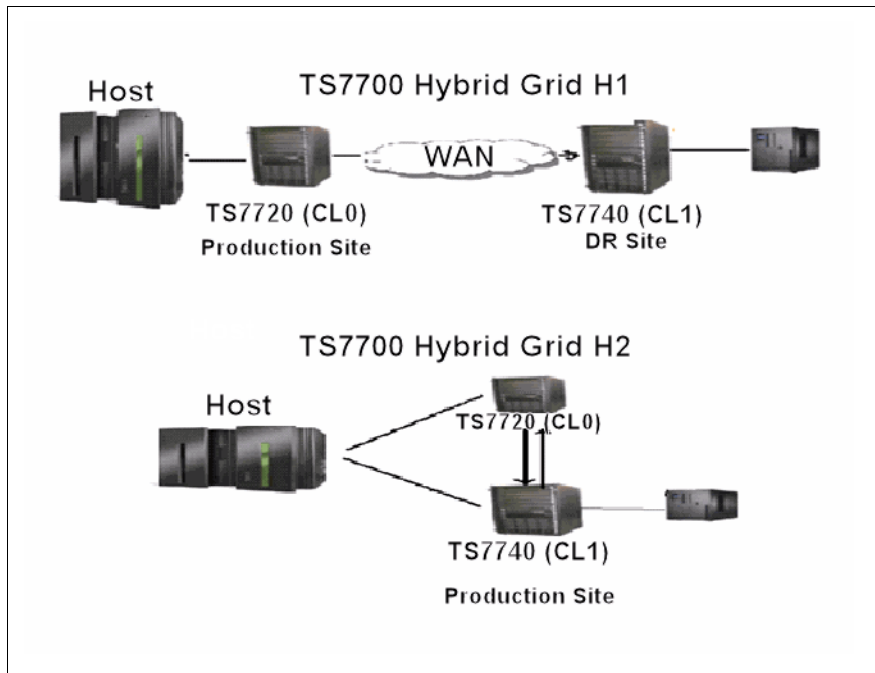

Figure 9-5 TS7700 Hybrid two-cluster grids H1 and H2
- ▶ Grid H1 (see Figure 9-5 on page 596) has a TS7720 in the production site, connected to the remote TS7740 in a disaster recovery configuration. Only TS7720 has host connections and active logical tape drives.
- ▶ Grid H2 (see Figure 9-5 on page 596) is used in a high availability mode, both TS7720 and TS7740 have active host connections and logical tape drives varied online.
Figure 9-5 shows the grids used in the performance test for the two-cluster hybrid grid.